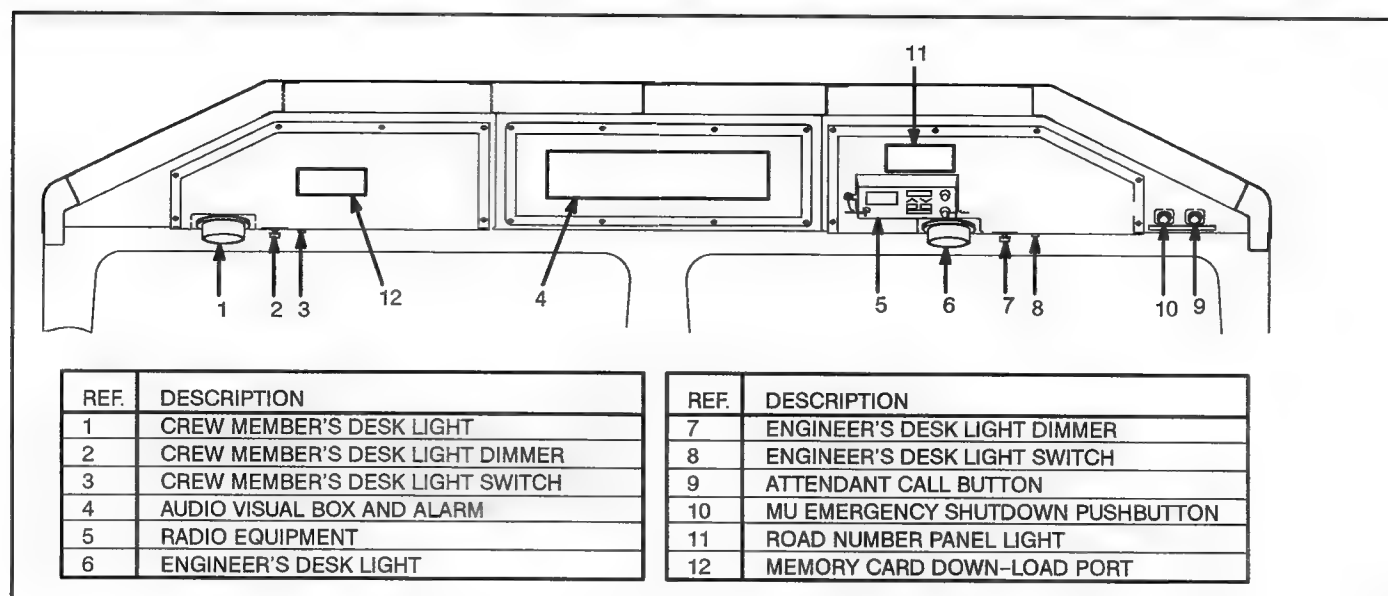

FIG. 10. OVERHEAD CONSOLE. E-39923A.
NOTE: *Numbers in parentheses () refer to Items found on Fig. 10 of this publication unless noted otherwise.*
A radio auxiliary control head (2) ties-in with the two-way radio equipment located in the Overhead Console (Fig. 10, Item 5). A hand held telephone-style microphone (7) is also mounted on this console for helper use.